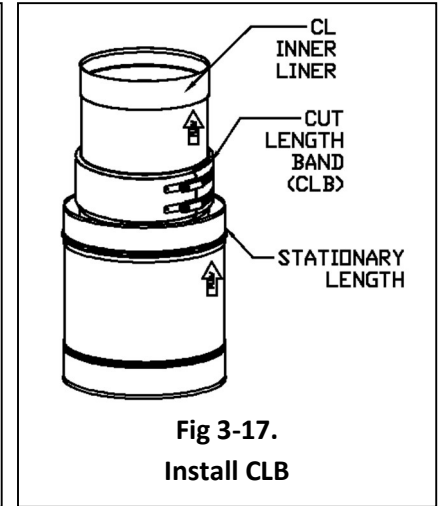

Fig 3-17. Install CLB
8. Position AF-Cut Band so it captures the expansion on the female inner and adjacent pipe/fitting (See Fig 3-17).